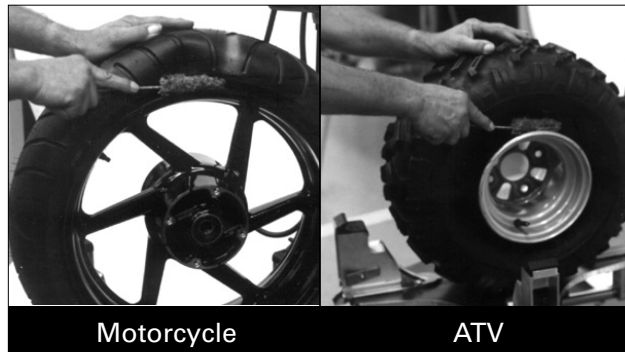

Figure 3 - Apply Rubber Lubricant to Tire Beads.
4. Apply tire manufacturer's approved rubber lubricant liberally to entire circumference of both tire beads after loosening (figure 3).